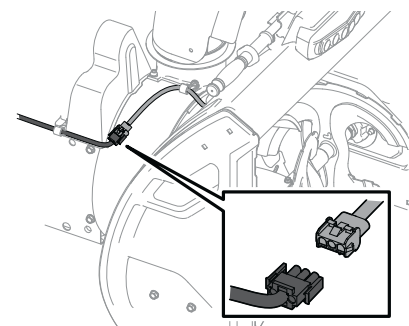

Figure 4-11
**NOTE:** On models equipped with the LED light bar on top of the auger housing, make sure to unplug the wire harness before removing the belt cover as shown in Figure 4-11.